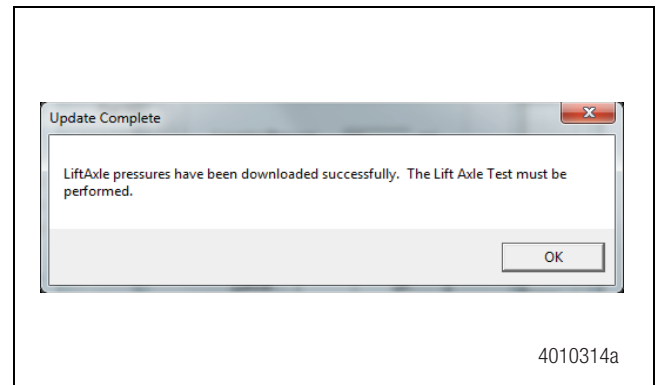

Figure 11
3. The values are validated and programmed when the **OK** button is pressed. When a confirmation message appears, press the **OK** button to continue. Figure 11.